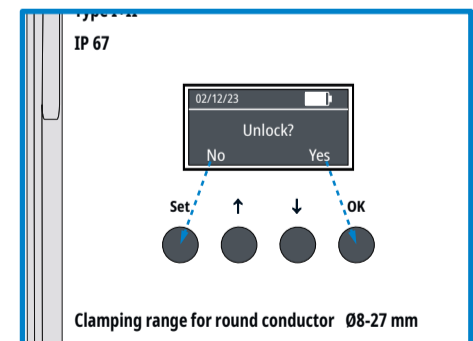

Fig. 8 Menu - Unlock?
1.3 Unlock the device by entering the PIN - *Unlock?* (Fig. 8):